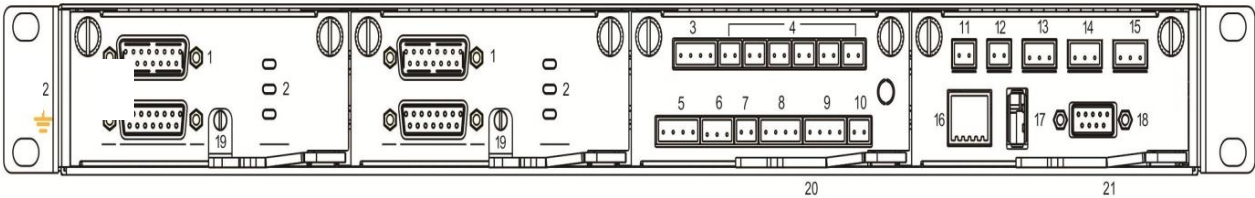
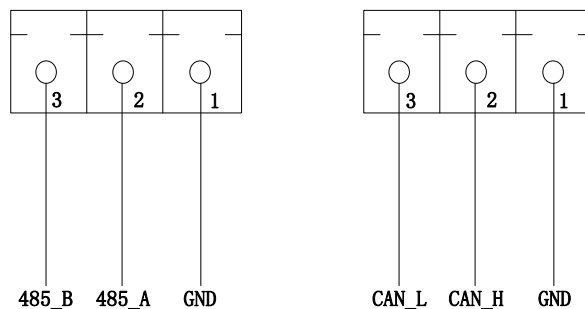

Fig. 3-14 Interfaces of control module
Figure 3-15 Connection schematic diagram of communication interface
Step 2: Connect the AC input cables to the main input power distribution terminals 1L1, 1L2, 1L3, and N in sequence, as shown in Figure 3-14 and Figure 3-15. Before powering on, please use a multimeter to confirm that there is no short circuit between each phase of the terminals.
The communication signal structure of the 20kVA-150kVA series UPS system is mainly concentrated in the control module, which includes the system control board, dry contact board and monitoring board. The interfaces of control module are shown in the Fig 3-14.